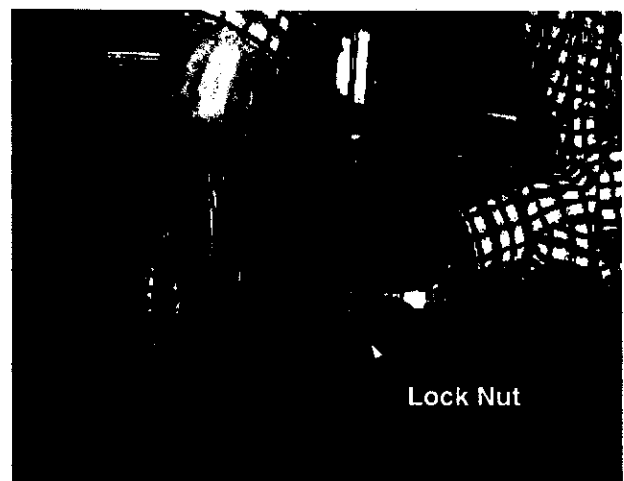

Figure 20
1. Use a 15/16" box or socket wrench on the bolt head under the belt guard and a 15/16" wrench to remove the lock nut holding the blade. See Figure 20.